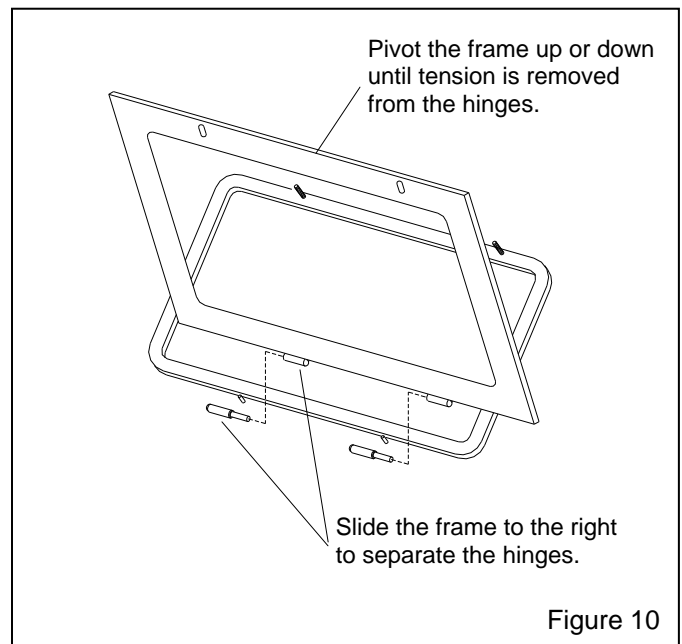

Figure 10
7.5 Window Frame Removal, Figure 10
7.5.4 Slide the frame to the right, to remove. The hinges separate as shown in Figure 10.